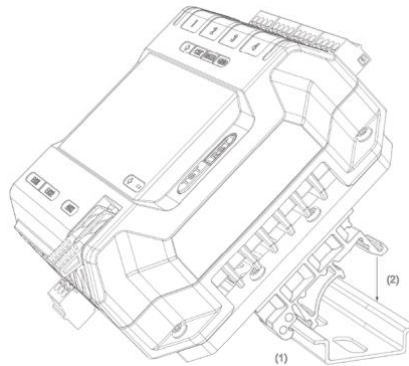

Figure 4 - PX24 Assembled to DIN Rail
2. Align the lower edge of the bracket with the lower edge of the DIN rail (1), and push the controller down so it clicks onto the DIN rail (2), as shown in Figure 4 below.